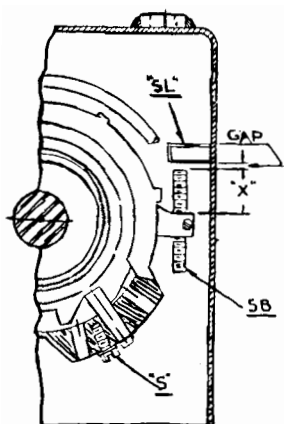

FIG. 1
2. Adjust stop bolt "SB" (bottom right hand) as follows: (Fig. 1)
3a. Operate mechanism with handle until stop bolt "SB" (Fig. 1) is about 1/2" away from stationary stop "SL". Leave it in this position. Close the air-break switch properly by operating directly at base of rotating insulator stacks; set stops on switch bases and connect the torsional operating pipe, first to switch rotor and then to angularly adjustable coupling at mechanism shaft.
3b. Operate mechanism with handle until stop bolt "SB" (Fig. 1) is about 1/4" away from stationary stop "SL" and leave it in this position. Open the air-break switch properly by operating directly at base of rotating insulator stacks. Set the stops at switch bases and connect the torsional operating pipe, first to switch rotor and then to angularly adjustable coupling at mechanism shaft.
Open switch again and disconnect couples at lower end of operating pipe from mate at mechanism shaft. Then close the switch a few degrees by operating directly at base of rotating insulator, and reconnect coupling. Repeat this procedure until the gap (Fig. 1) is about 1/4" with air-break switch properly closed. THE DIMENSION "X" MUST REMAIN AS SET IN PARAGRAPH 2.
THE MECHANISM, take out cap screw "S" (at bottom of mechanism - Fig. 1) which holds the locking pin in place, insert the spring winding rod, which is held loosely in socket at left-hand lower corner (see paragraph 11) into one of the vacant holes, and wind clockwise (looking from top) at the same time applying a light pressure to the end of